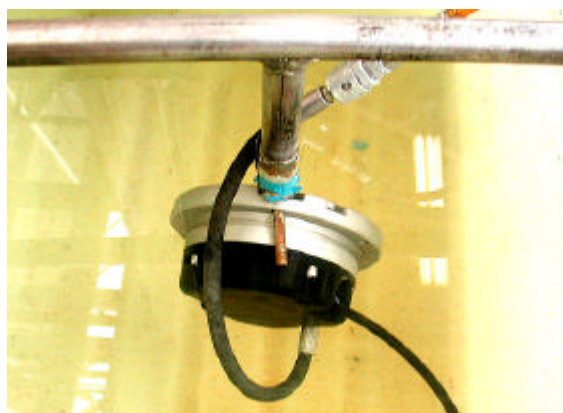

Fig. 14. Air pressure test a fitting in a water tank.
- Check for evidence of air bubbles from the areas adjacent to the body to base seal, prism seals, and the cable gland. (See **Fig. 14**).